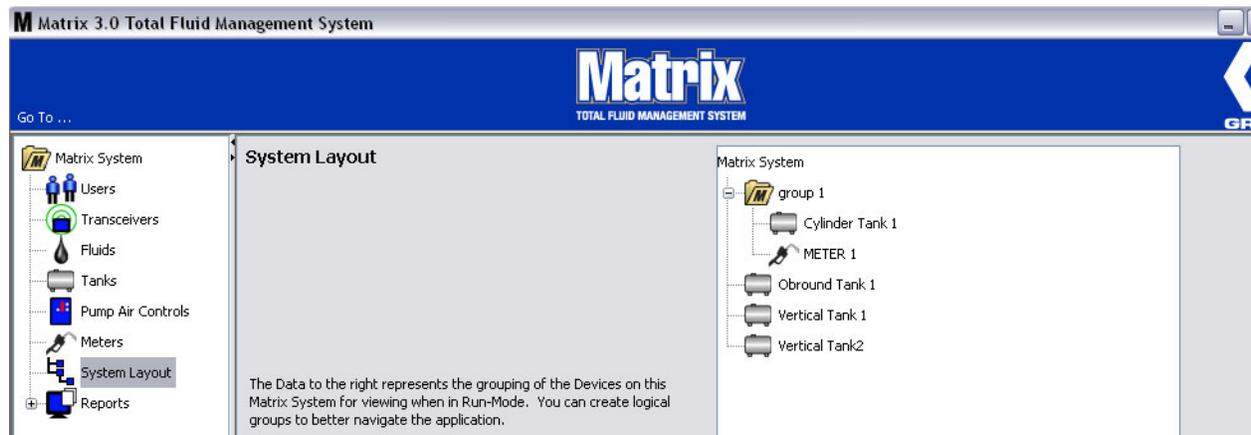

FIG. 98
- When you are finished creating or modifying group folders, click OK to close the screen and save the changes. The Group(s) you created are displayed in the Matrix System column (FIG. 98).